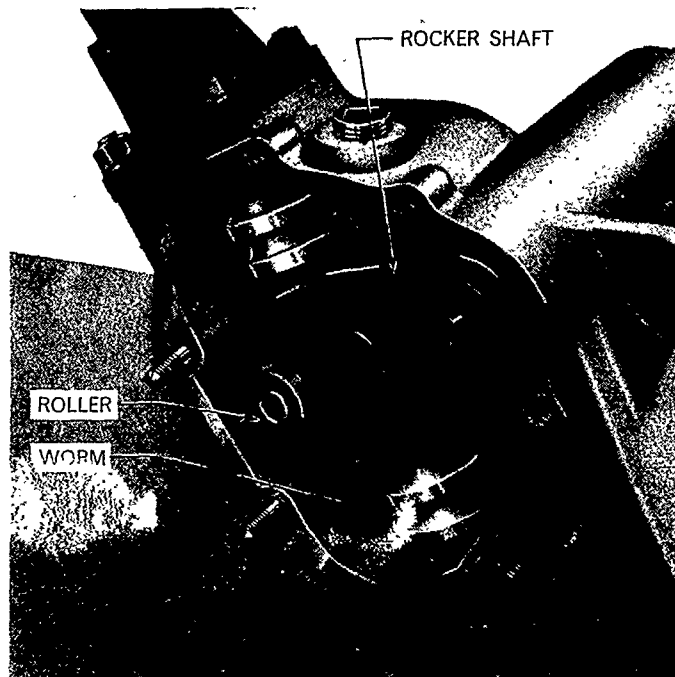

Figure 18
7. Insert the rocker shaft into the steering gear housing engaging it with the steering shaft main nut, Figure 18.